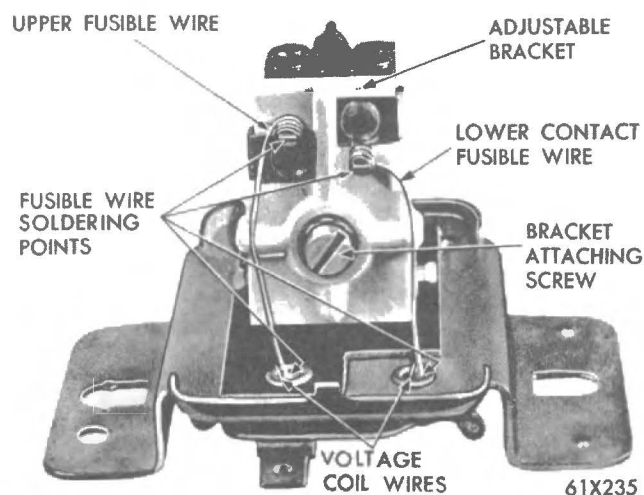

Fig. 13 - Voltage regulator fusible wires.
(1) When the battery line voltage is relatively low, the current flow through the voltage coil will be low. The magnetic force (or pull) of the voltage coil will not be great enough to overcome the regulator armature spring tension which is holding the armature contact against the upper stationary contact (Fig. 13).